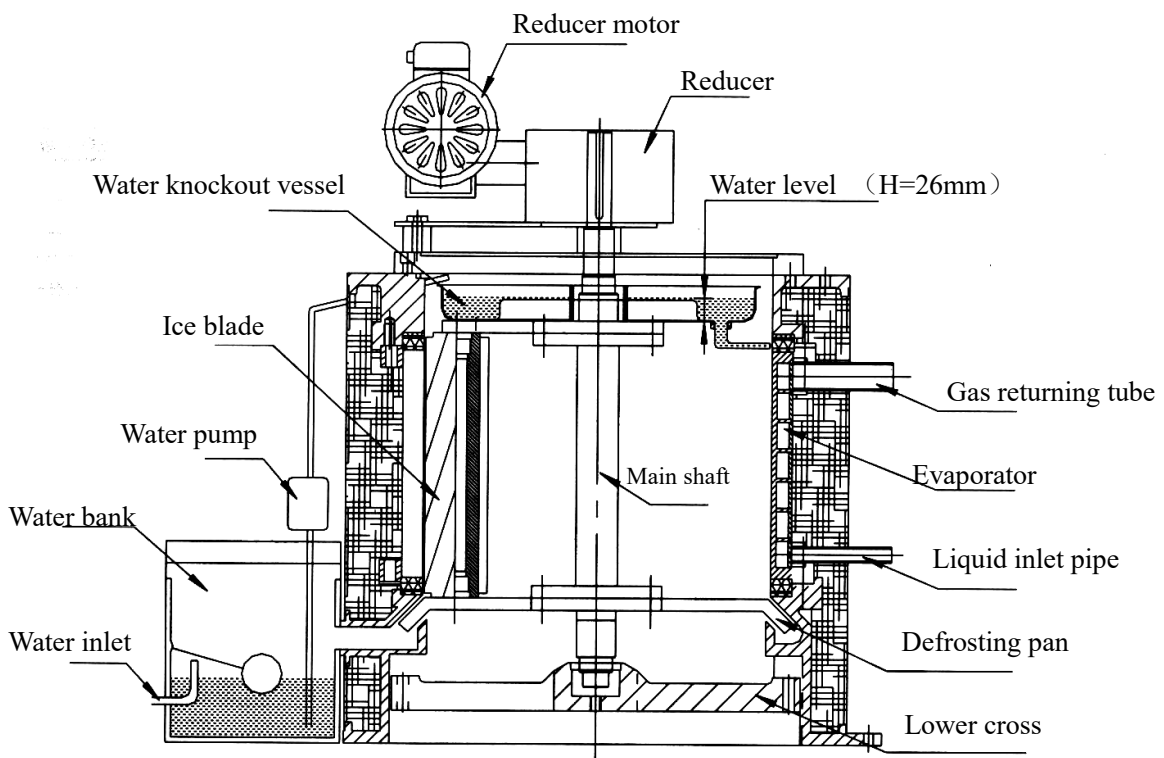

Figure 6
2. Water Circulation System (See figure 6)